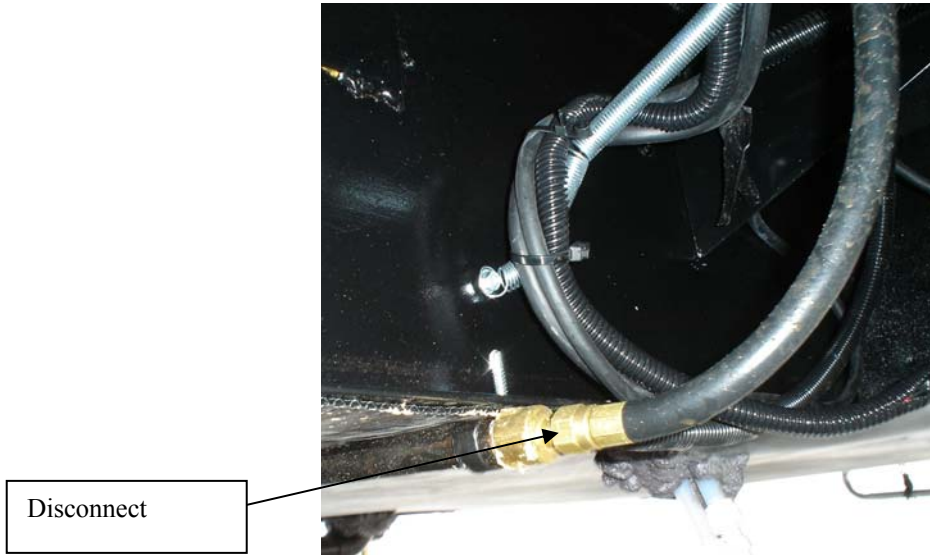

Fig. 1
Step 1. Remove kitchen slide LP flex hose from main LP manifold. See figure 1.